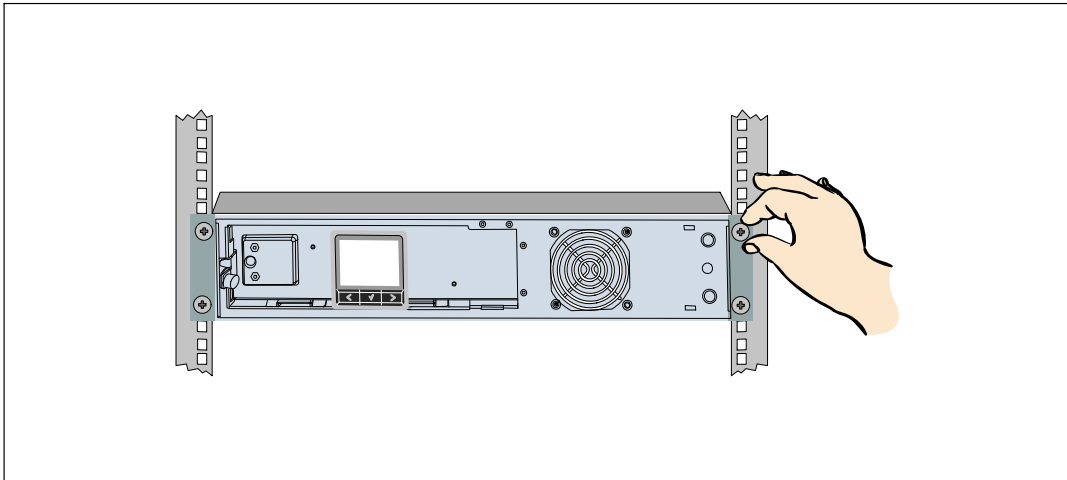

Figure 16. Securing the Cabinet
- 7 Secure the front of the cabinet to the rack using the four thumbscrews on the mounting brackets (see Figure 16). Tighten by hand; do not use power tools. Repeat for any additional cabinets.